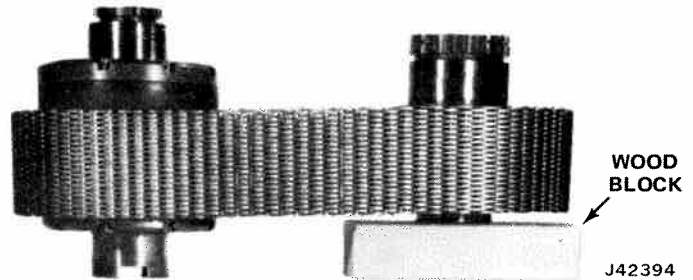

Fig. 8-43 Drive Chain Positioned Around Differential and Drive Sprocket
(3) Position drive chain around drive sprocket and differential assembly as shown (fig. 8-43).